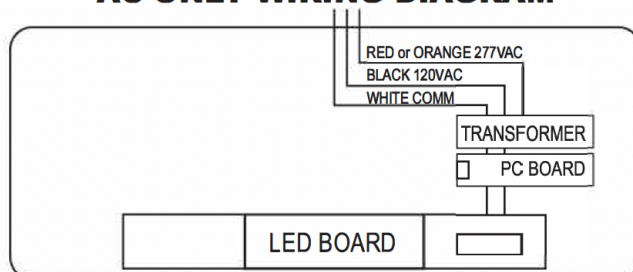

Fig. 2
2. Slide the screw holders into the holes on the unit's housing as shown in Figure 2.